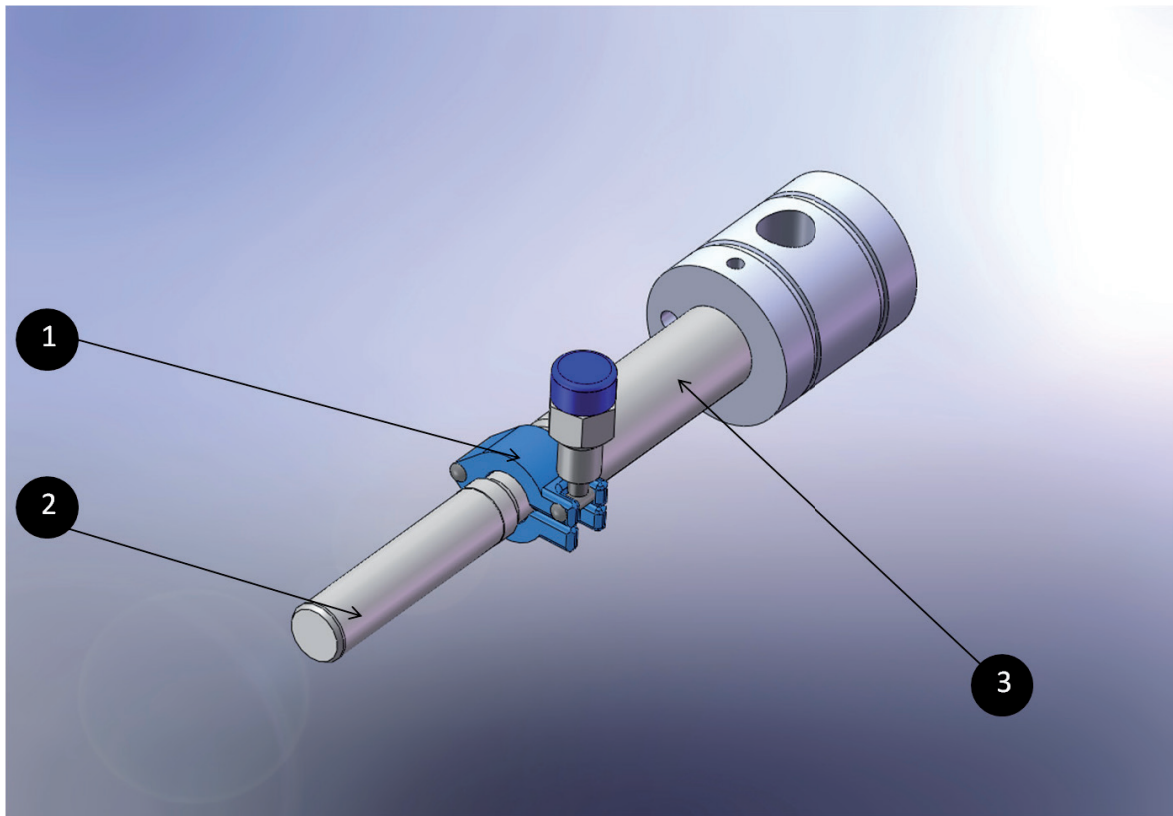

FIG. 7-14
- Referring to Figure 7-14, unscrew the closing clamp (1) joining the pumping piston (2) and guide piston (3) with the wrench provided (14x14) and move the pumping piston away from the piston guide, manually turning the flywheel mounted on the shaft, bringing the piston guide to the outermost point.